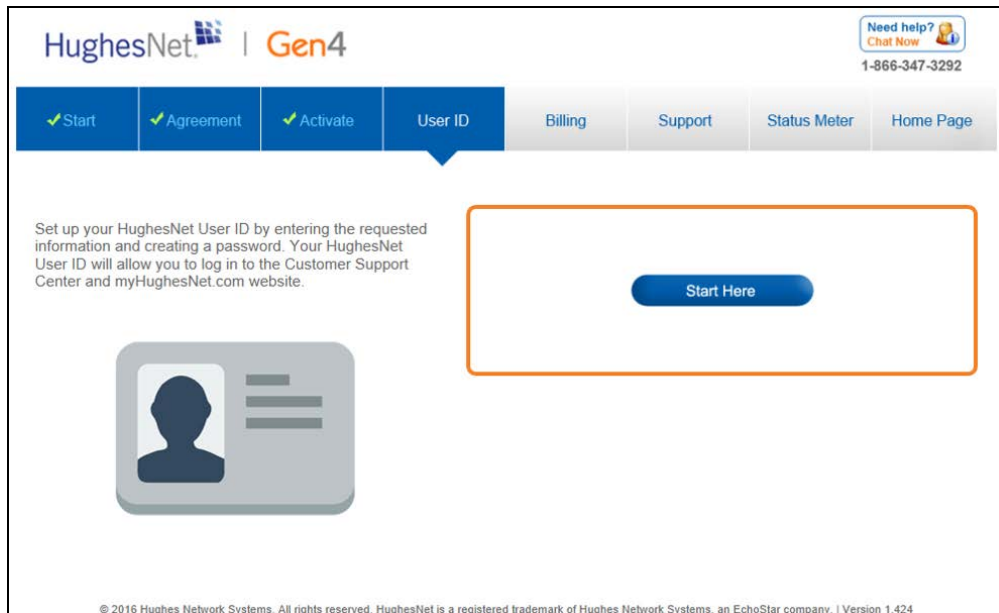

Figure 41: User ID screen
11. The Create a HughesNet Desktop Account screen will appear, as shown in Figure 41.